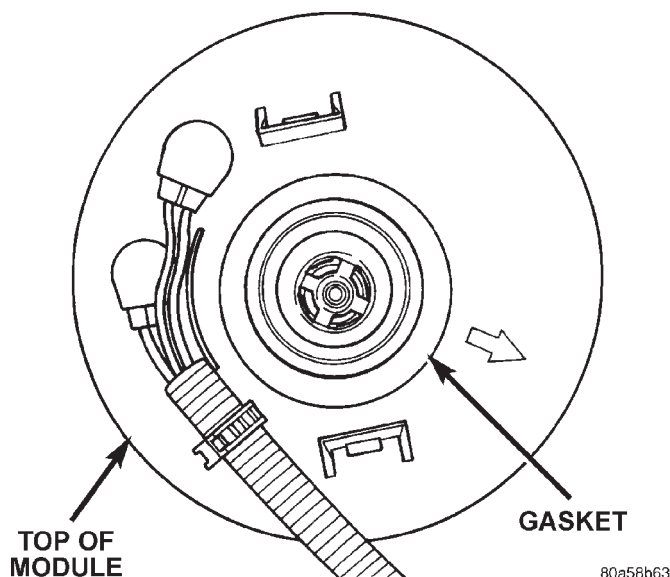

Fig. 23 Fuel Filter/Fuel Pressure Regulator Gasket
- (5) Pry filter/regulator from top of pump module with 2 screwdrivers. Unit is snapped into module.
- (6) Discard gasket below filter/regulator (Fig. 23).